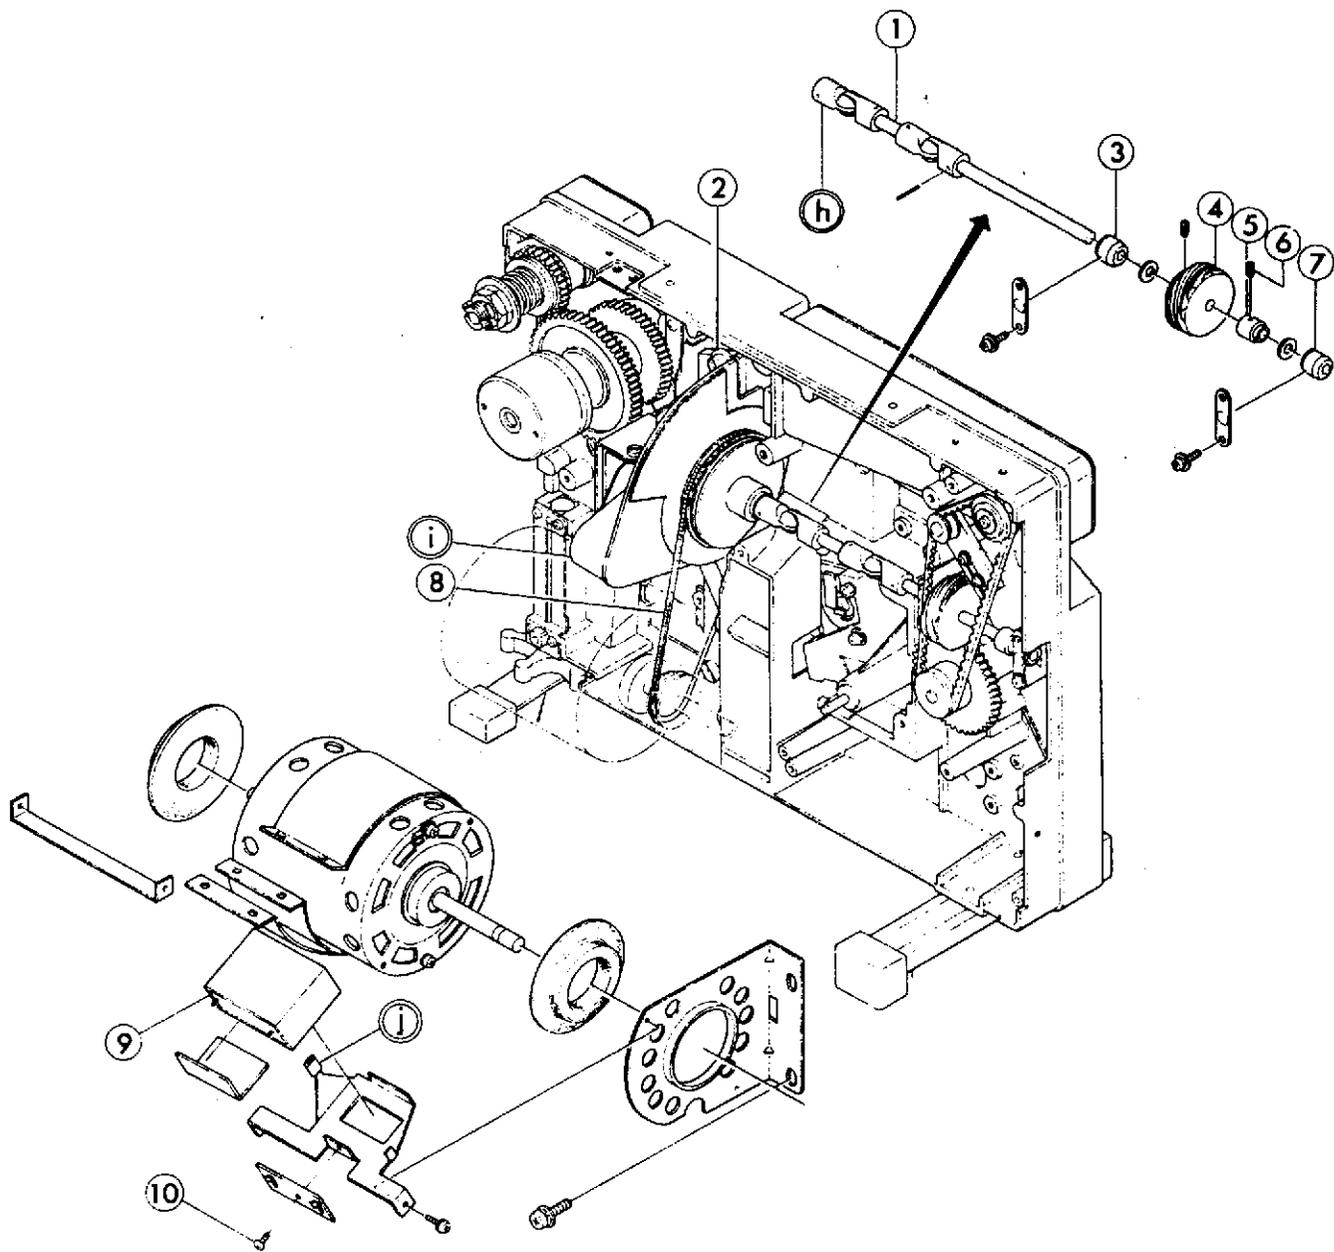

Fig. 11
- (2) After (j) in Fig. 11 is raised up, remove Fig. 11-9 by detaching Fig. 11-10.
- (4) Remove Fig. 11-8 from (i) in Fig. 11.
- (5) Set Fig. 1-22 at "⊙" position and remove (i) in Fig. 11 by detaching Fig. 11-2x2.